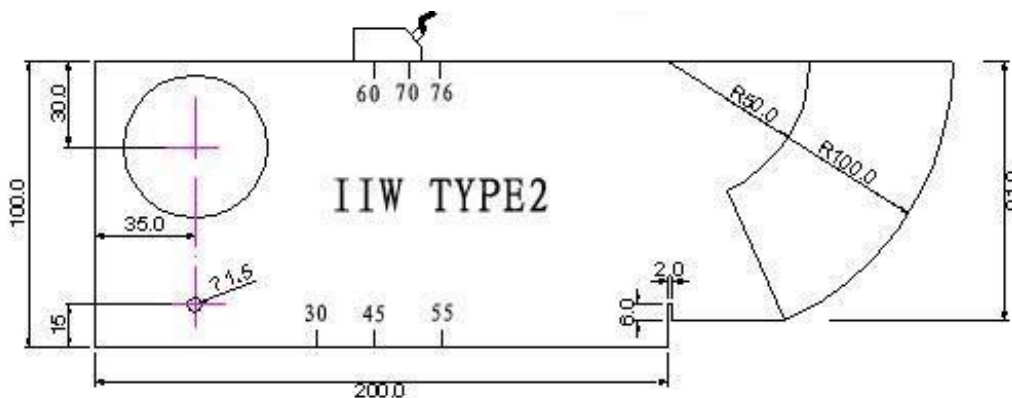

Fig.4.2 ANG ECHO
- (2) By you can see ANG echo, Then put your probe as fig4.2, Try to find the highest echo of the hole (φ 50), then press , you will see ANG=XXX.X.